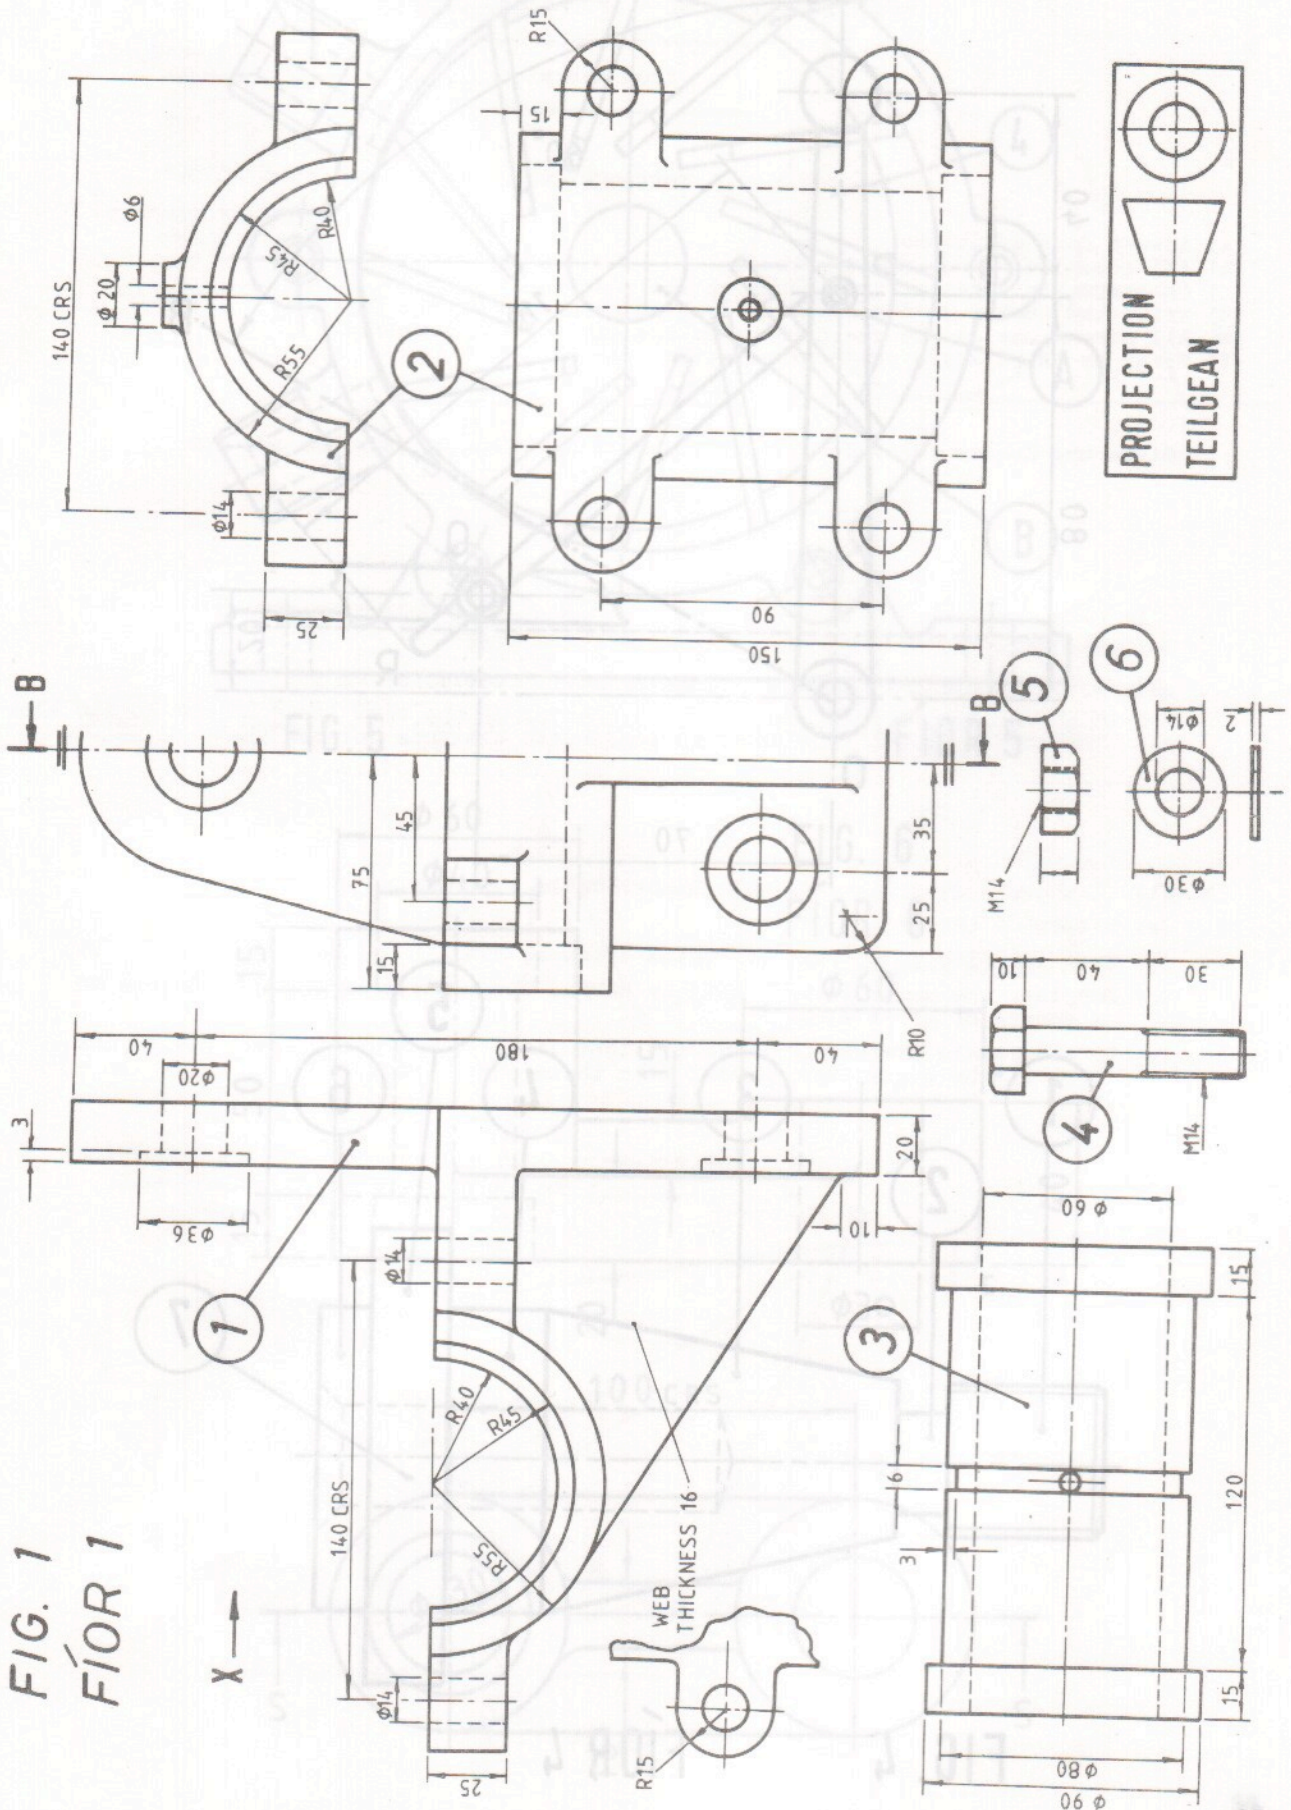

FIG. 1
1. Details of a BEARING BRACKET are given in Fig. 1 with the parts list tabulated below.